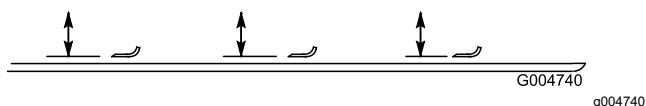

Figure 142
4. Rotate the blade until the ends face forward and backward, and measure from the inside of the cutting unit to the cutting edge at the front of the blade (Figure 142).